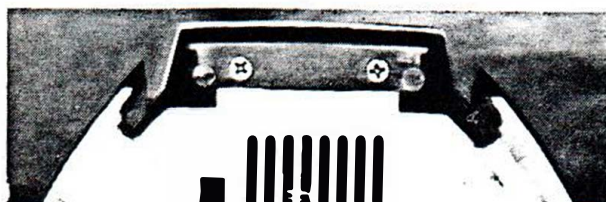

Figure 20. Headlight Bulb Replacement
- A. See Figure 20. Remove two flat head phillips screws from bottom of headlight plastic lens.